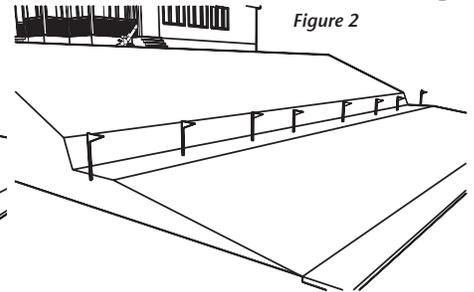

Figure 2
Step 2: Excavate the area by removing all surface vegetation and organic materials from the area. These cannot be used as backfill material. See Figure 2.